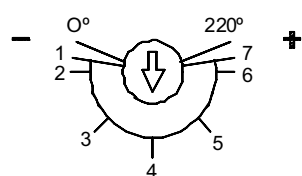

Fig.9
- Put the amount of detergent indicated by the manufacturer into the tub Fig.9 indicate the doser regulation range.